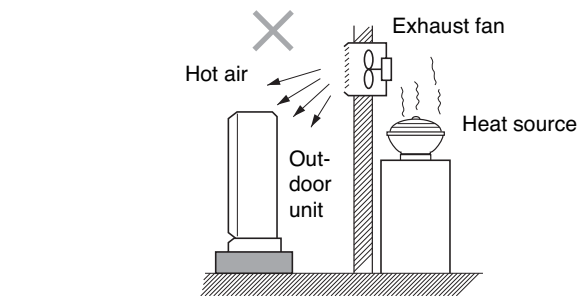

Fig. 2-1
- heat sources, exhaust fans, etc. (Fig. 2-1)